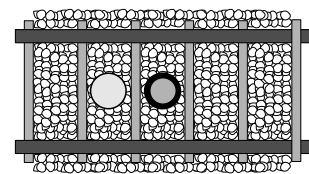
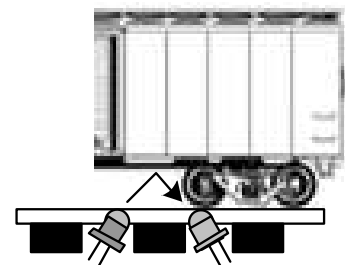

Figure 5a
Figure 5b
The *Grade Crossing Pro* (GCP) provides prototypical operation of a grade crossing. Four pairs of Infrared (IR) emitters and detectors are used for bidirectional train detection. Detection is achieved when the IR beam from the emitter reflects off the underside of the train back down to the detector. **Despite the use of infrared components you could still encounter false triggering from overhead lighting. This is usually eliminated with angled sensor mounting (Figure 5b) and/or proper sensor sensitivity adjustment (page 4).** This version of the GCP must be powered from either a 7-9V AC or 9-12V DC power source (such as our 12VPSR). **Do NOT exceed these limits!** The layout of the signals and IR components is illustrated at left below. The illustration on the right shows a side view of the IR detection method.
The IR components should be mounted between the rails. Drill two 11/64” holes, through the ballast, roadbed, and sub-roadbed. These holes should be located one tie apart (Figure 5a) and drilled at approximately a 45 to 60 degree angle from horizontal as illustrated in the side view in Figure 5b. The benefit of mounting them at an angle is reduced false triggering from overhead light and increased detection reliability in smaller scales or irregular bottoms on rolling stock. For the smaller scales this drilling may end up hitting the ties. Take your time so you don’t mangle them! Insert the leads of one IR emitter (white and black wires) into one of the holes (it doesn’t matter which one!) from the top of your layout. Repeat for the IR detector (blue and black wires). The tops of the components should sit no higher than the top of your ballast for optimal IR performance; in some cases (e.g. false triggering) it may be necessary to locate the components a little below the ballast line. You can extend the leads with similar (or larger) wire. We recommend soldering and insulating these connections. We also recommend using terminal blocks/strips since you’ll have multiple DC and GND connections to make. Once you have wired the IR components and verified their operation you may wish to put a dab of white glue or silicone caulk where the wires exit the holes underneath the layout. This will help to hold the components in place; make sure you don’t get any substance (e.g. ballast or glue) on the top surface of the IR components as this may prevent them from operating properly. In extreme cases where you may be getting interference from overhead lighting you can mount the IR detector in some plastic or metal tubing. You can also recess the IR detector slightly below the ties and roadbed.